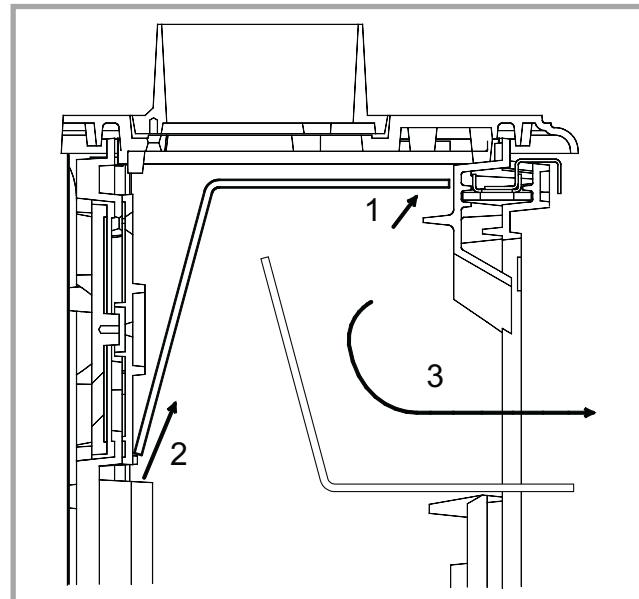
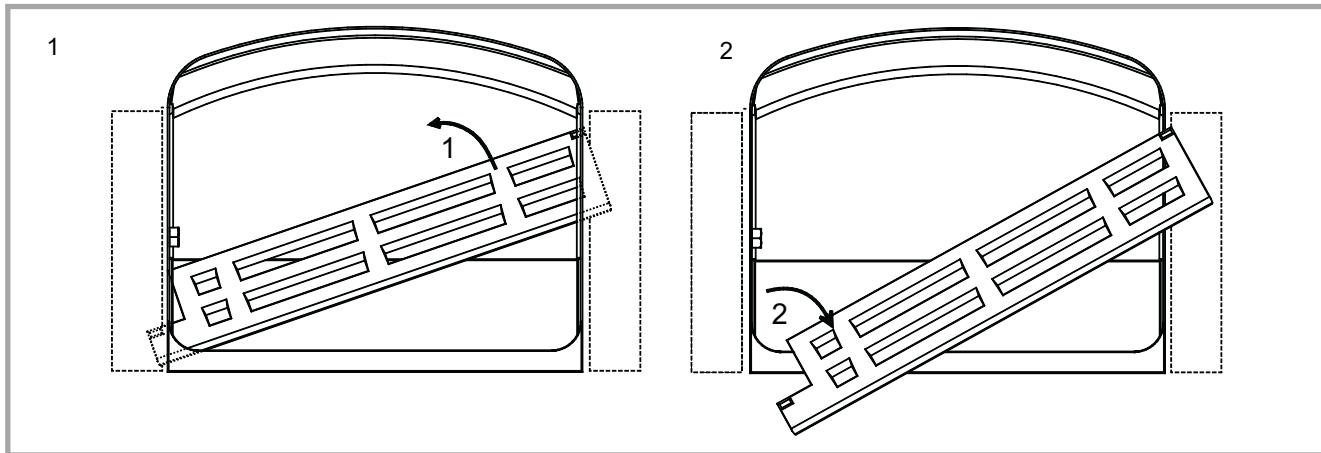
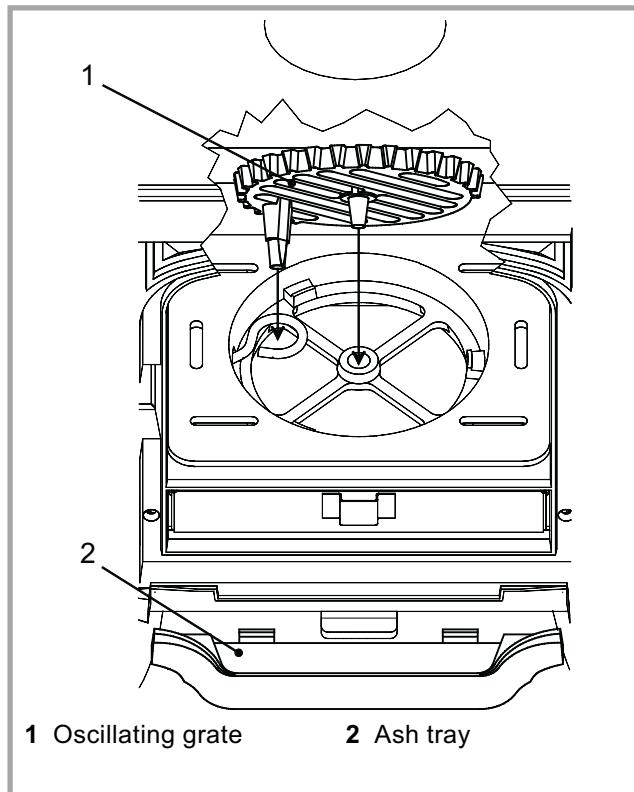

Figure 3 - Removing the flue baffle
Figure 9 - Removing the fuel retainer
Figure 10 - Mounting the oscillating grate and the ash tray
- Check that all removable parts are correctly installed (fuel retainer (fig. 9), oscillating grate (fig. 10), baffle (fig. 3) Etc.).
- Fit the ash tray, located in the ash pan, between the front legs (rep. 2, fig. 10).